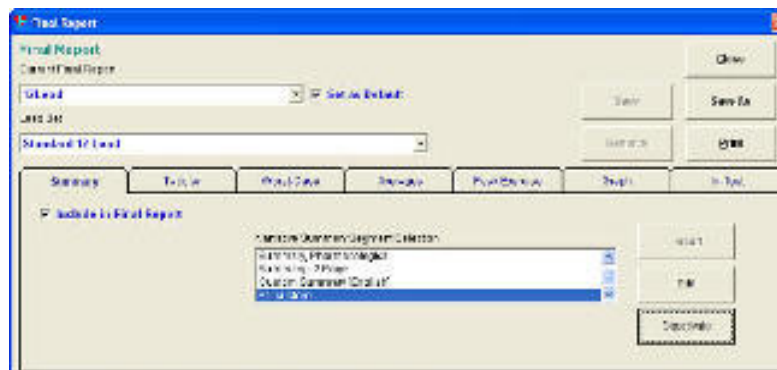

Figure 11-1: Example of the Final Report Summary tab
2. Begin with the master template. Open the **Final Report Setup** window. Click the **Summary** tab (Figure 11-1).